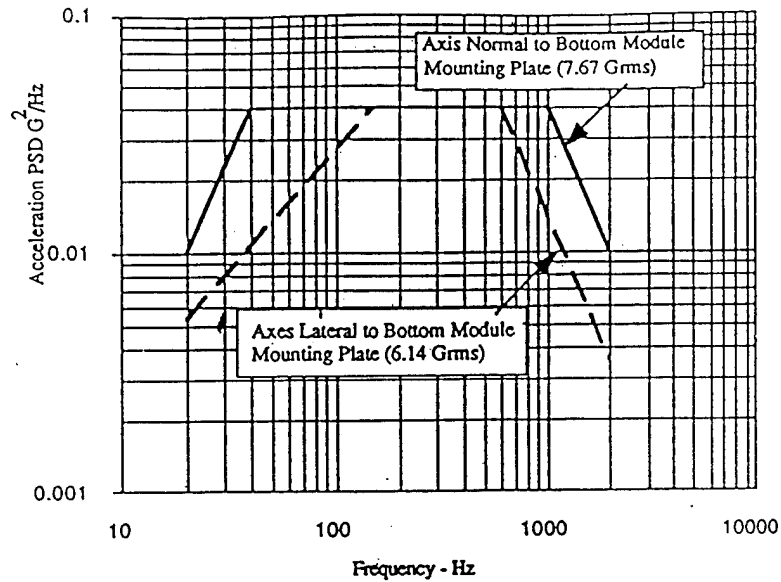

Figure 18 - Maximum Expected Launch Vibration Levels
3.6.2 Vibration. Maximum predicted launch vibration levels for the at the MPTB interface with the host vehicle are shown in Figure 18.